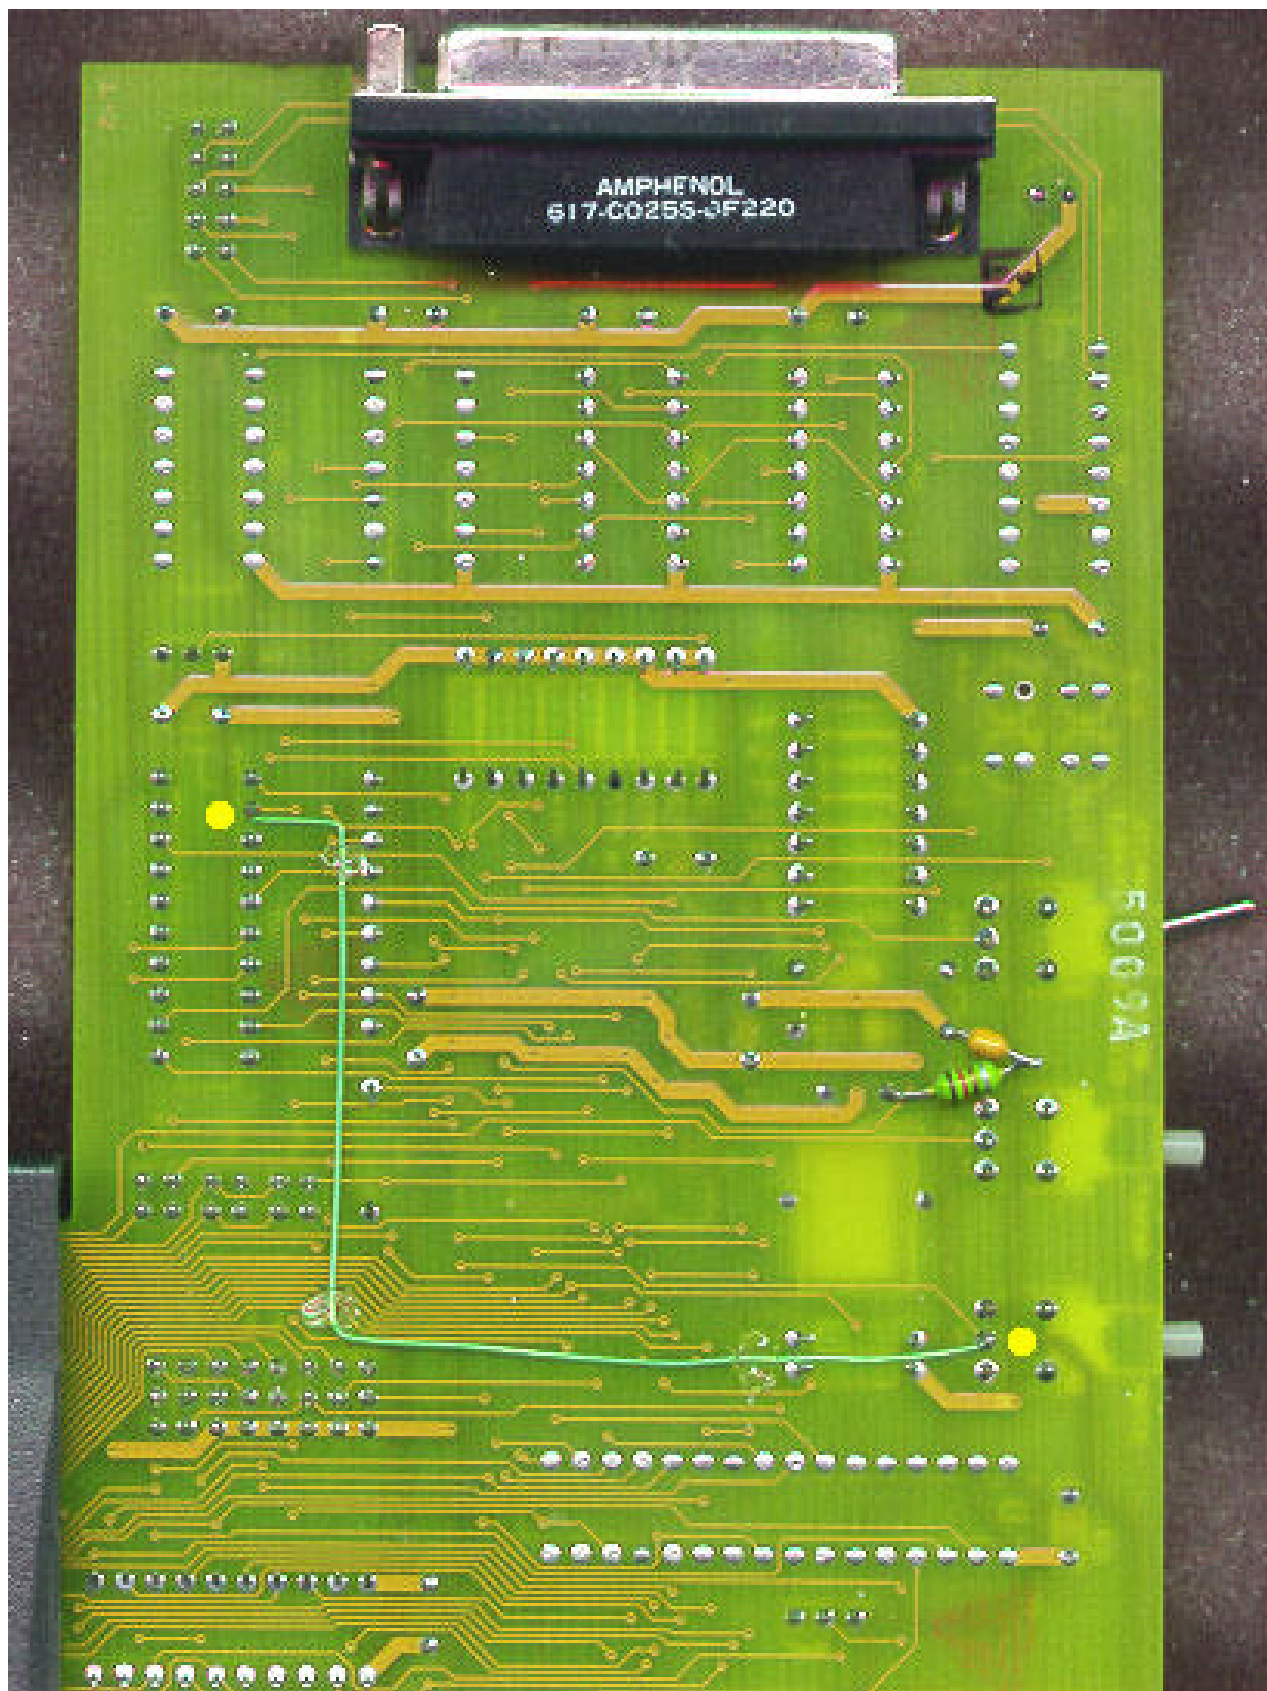

Figure 2. Alpine back side
- U7 Pin 2 to Switch S3 (Stop) middle terminal (yellow dot to yellow dot ; make this connection on the back side, solder side, of the board ; see Fig. 2)